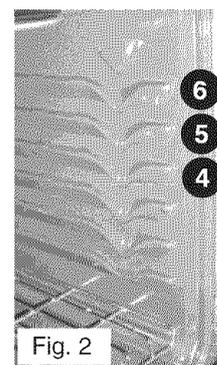

Fig. 2
3. When using 2 oven racks at the same time, place in positions 2 & 5 for best results (See Fig. 2).
Broil Oven Rack Position Table (Refer to Fig. 2)